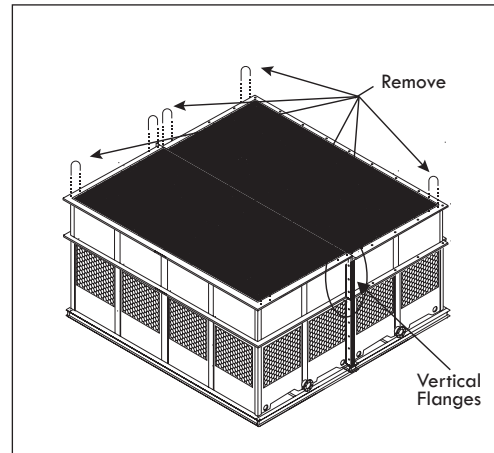

Figure A-29: Removing U-bolts from Lower Body section for a Quadruple Fan Tower (RT-D)
- J.** Follow the same instruction to install the Lower Body section #2 on top of basin section #2. Once both sections are installed, then proceed to bolt together the vertical flanges of Lower Body section 1 & 2; use first the galvanized bolts and nuts to join sections, once both section are well together, then replace galvanized bolts with the stainless steel nut and bolt sets supplied by REYMSA. Remove U-bolts from both sections (see Figure A-29).